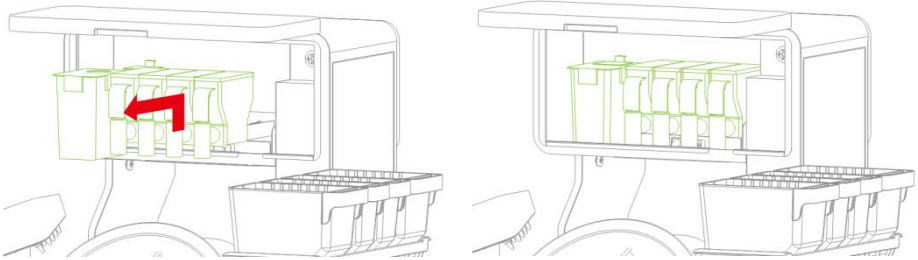

Figure 4-2 Powder Container
3. Return the container to its original position and close the compartment door, as shown in Figure 4-2.